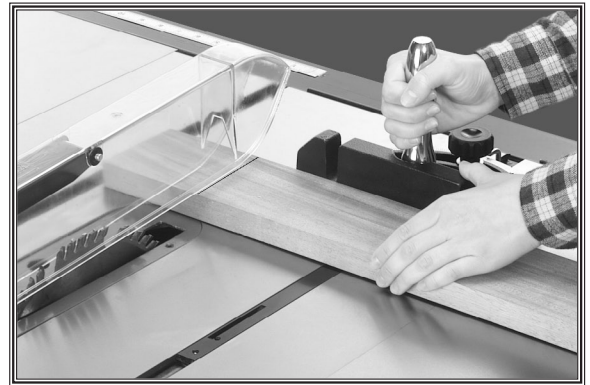

Figure 43. Typical cross cut.
6. Hold the workpiece firmly against the face of the miter gauge and ease it into the blade as shown in **Figure 43**.